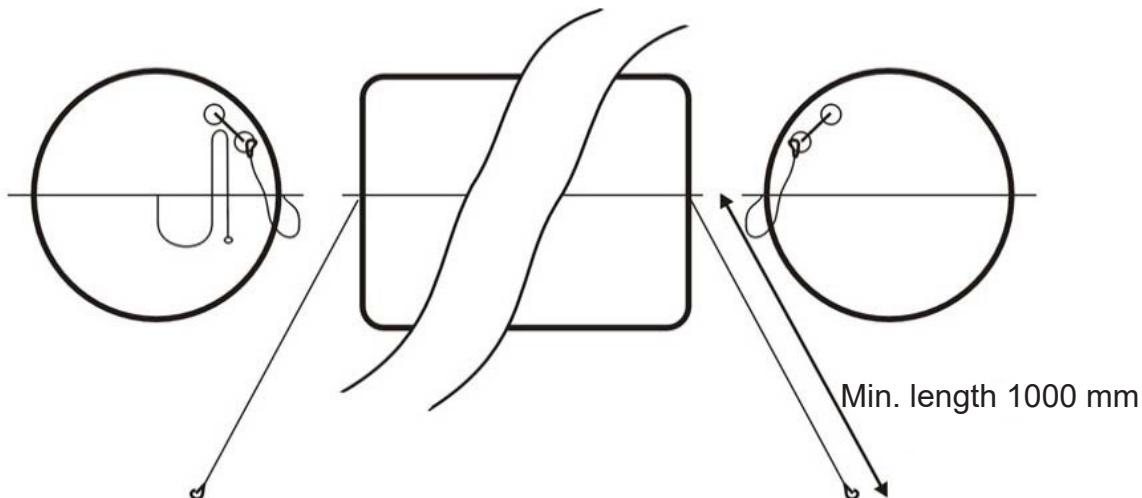

FIGURE A6-3
- (b) Use a single turn of breaking thread to attach the flaked bowsing line to the handle on the container. Refer to FIGURE A6-3.